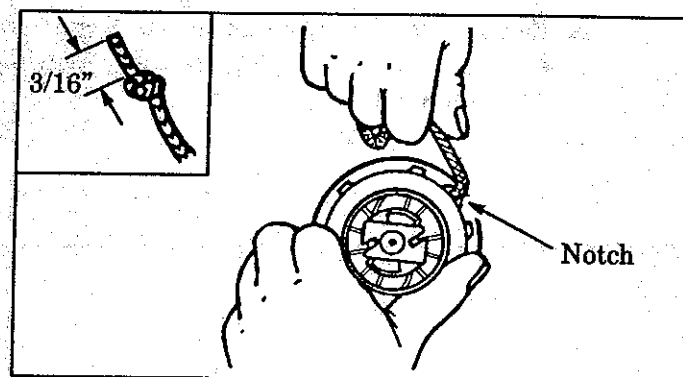

Figure 40
10. Insert one end of the rope through the handle and secure with a knot. Leave a 3/16" pigtail behind the knot. Figure 40 (inset).
17. Pull out 10 inches of rope. Catch the rope in the slot in the pulley. Figure 40.